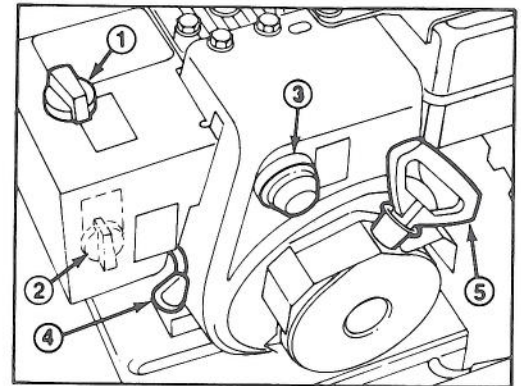

Figure 14
Choke (Fig. 14) — Choke for engine is located on heater box. Rotate choke to FULL choke position to start a cold engine. As engine warms up, move choke gradually to OFF.
Primer (Fig. 14) — Press primer to pump small amount of gasoline into engine for improved cold weather starting.
Fuel Shut-Off Valve (Fig. 14) — Valve is located under fuel tank. Close valve to stop fuel flow from fuel tank and open valve to allow fuel to flow to the carburetor. Close valve when snowthrower is not used.
Discharge Chute Control (Fig. 14) — Rotate discharge chute control clockwise to move discharge chute to the left and counterclockwise to move chute to the right.
Recoil Starter (Fig. 14) — Recoil starter is on back side of engine. Pull recoil starter to start engine.
2. Move throttle to FAST (Fig. 14).
4. Rotate choke to full choke position (Fig. 14).
6. Depress primer (Fig. 14) five times.
7. Grasp recoil starter handle (Fig. 14) and pull it out slowly until positive engagement results; then pull vigorously to start the engine. Keep firm grip on starter handle and return the rope slowly.
8. After engine starts, immediately rotate choke (Fig. 14) to 3/4 position. As engine warms up, rotate choke to 1/2 position; then to OFF position. If engine falters, return choke to 1/2 position. When engine warms sufficiently, rotate choke to OFF position.
2. Move throttle to slow and rotate ignition key to OFF (Fig. 14).